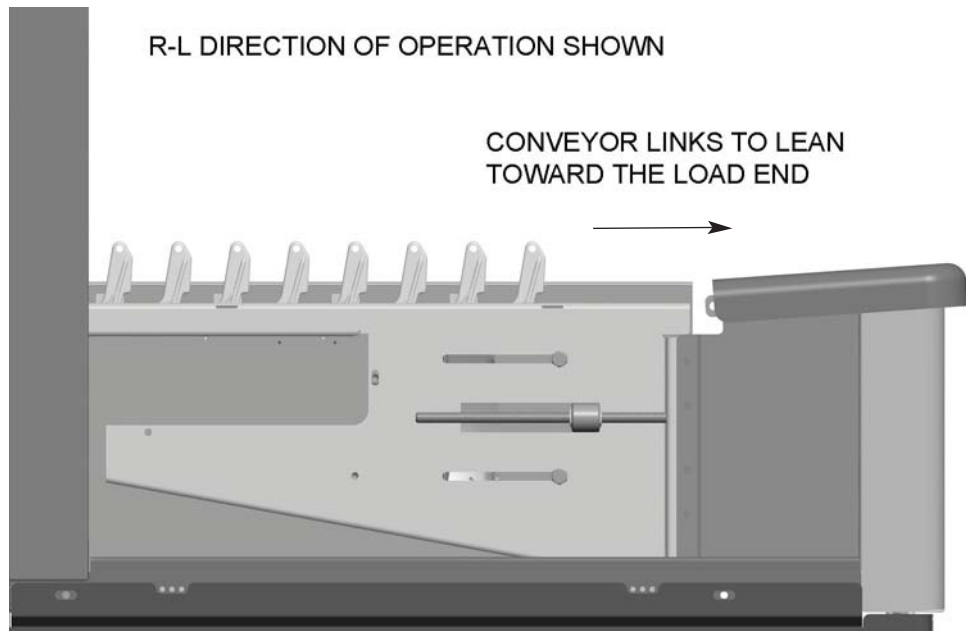

Fig. 34
- Position the first section of conveyor in line with the machine at the load end. The flight links must lean towards the load end of the machine (Fig. 34).